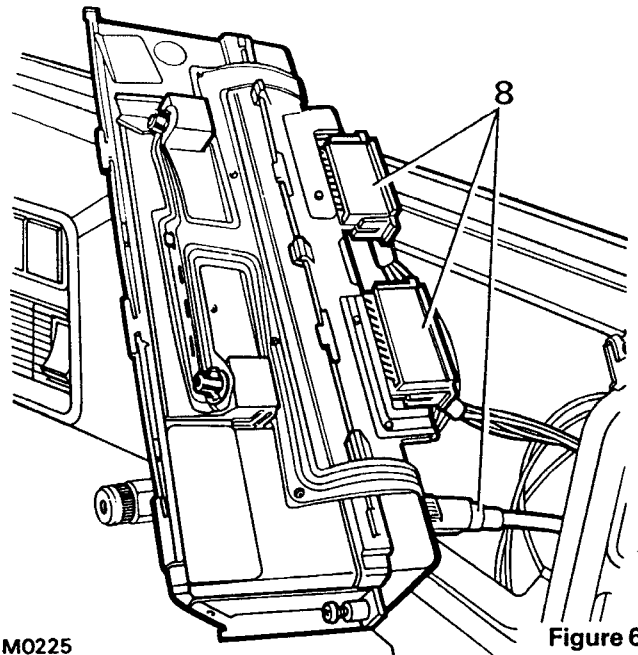

Figure 6
8. Remove fixing screws, pull binnacle forward from fascia location and disconnect multi-plugs and speedo cable, see Figure 6.